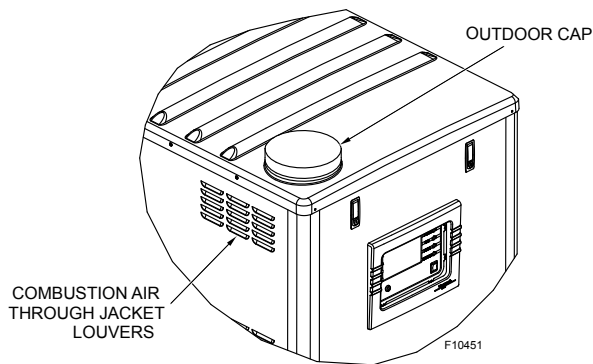

Figure 12. Outdoor Combustion Air
1. Install combustion air duct to the Air Intake Connection. See Figure 4 and Figure 12. Remove and discard the outdoor cap and extend the combustion air duct through the top to connect to the blower intake. All ducting shall be self-supporting.